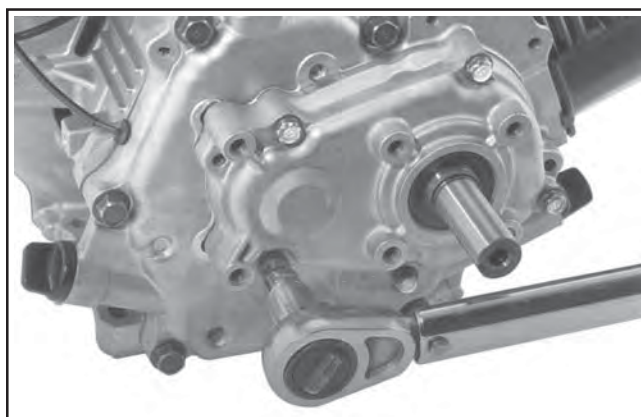

**Figure 11-34. CS4, CS6. Installing Dowel Pins and Gasket.**
5. Install the dowel pins into their respective locations in the closure plate, and install a new gasket (dry) onto the dowel pins. See Figures 11-34 and 11-35.